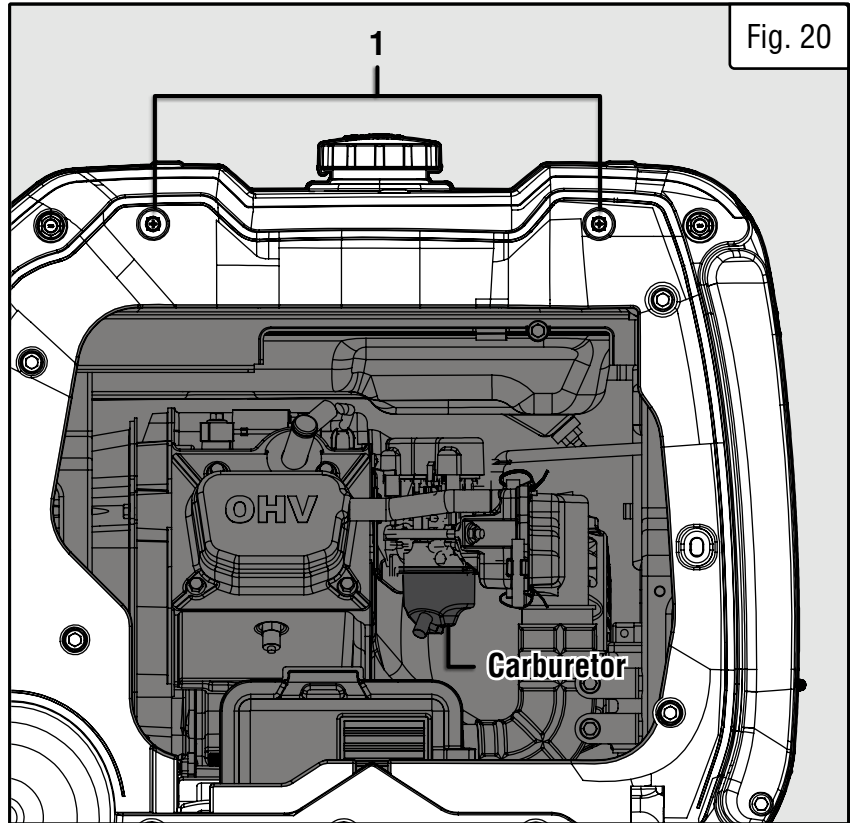
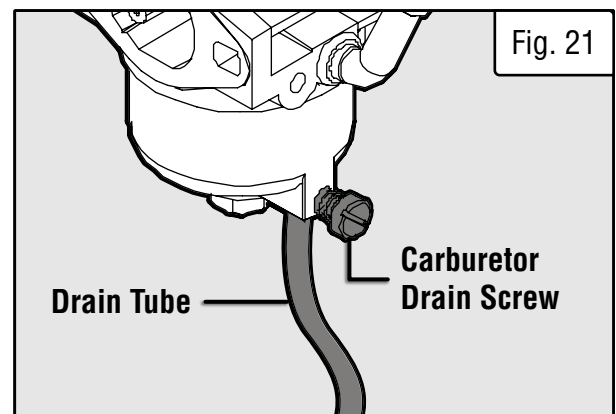

Fig. 20
Fig. 21
3. Using a Phillips-head screwdriver, unscrew the top two screws (Fig. 20 - 1) and remove the service panel on the opposite side of the recoil starter.
4. The carburetor can be accessed between the engine and the air filter (Fig. 20). Locate the transparent tube from the carburetor (Fig. 21) that extends down through the base plate of the generator.
6. Open up the carburetor drain screw (Fig. 21) with a flat-head screwdriver and drain out any gasoline that has built up inside the carburetor through the drain tube into the approved gasoline-storage container.
1. Using a Phillips-head screwdriver, unscrew the top two screws (Fig. 20 - 1) and remove the service panel on the opposite side of the recoil starter.
1. Using a Phillips-head screwdriver, remove the service panel on the opposite side of the recoil starter by unscrewing the top two screws (Fig. 20 - 1).